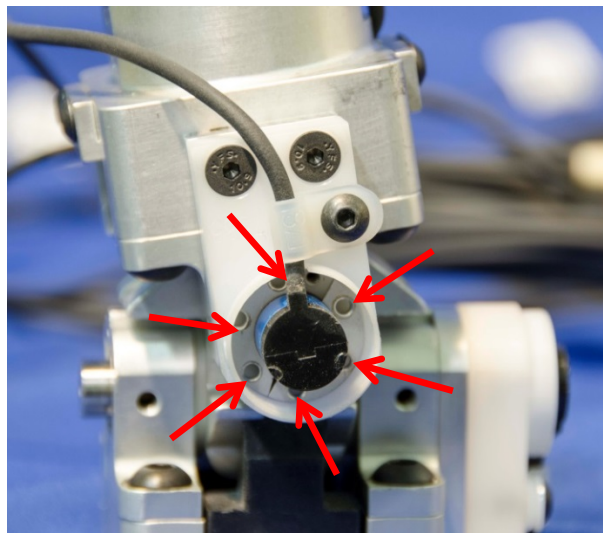
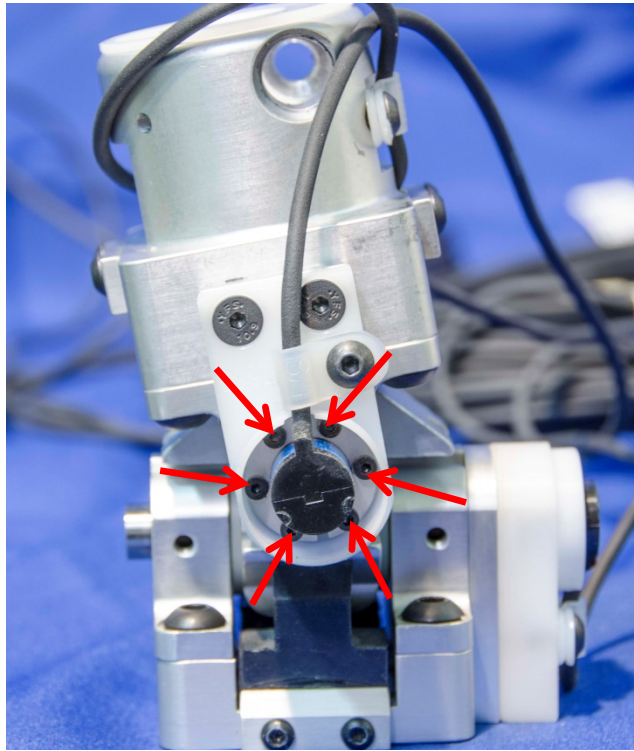

Figure 12-46. Align potentiometer to ankle bushing plate
Figure 12-47. Install potentiometer clamps to hold pot to ankle bushing plate
- 12.2.2.29 Install six (per potentiometer) M2 x 0.4 x 6 SHCS into each potentiometer clamp to secure the potentiometer to the Ankle Bushing Plate Assembly (Figure 12-46 and Figure 12-47).